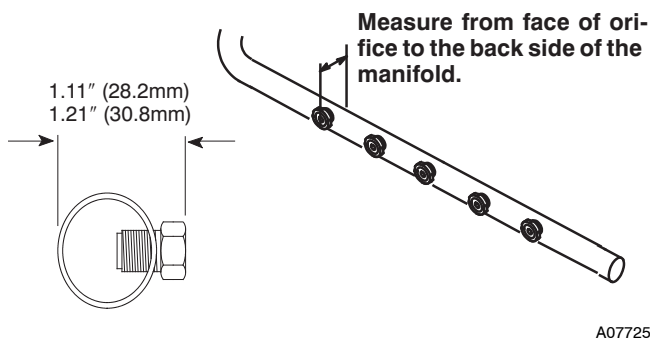

Fig. 39 - Changing Orifices
3. For operation with Propane gas, gas orifices **MUST** be changed and manifold pressure **MUST** be *maintained* as per **Table 8**. Orifices can be ordered through your distributor. See Fig. 39.
4. Tighten orifices so it is seated and gas tight. (See Fig. 39.)